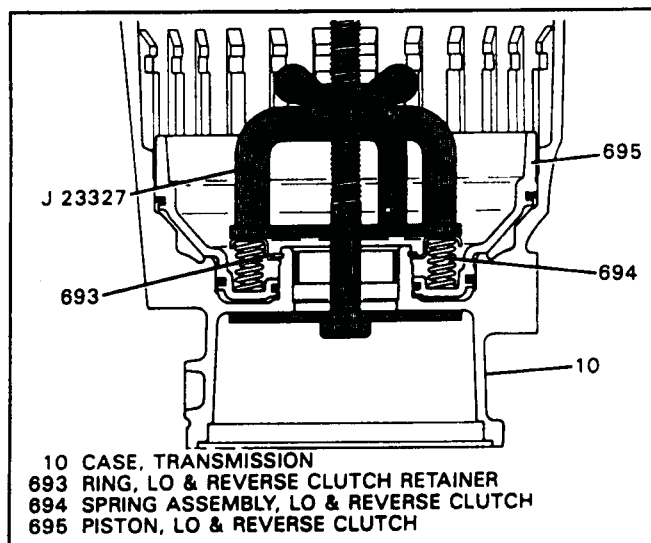

Figure 83
6. Install J-23327 spring compressor as shown in Figure 83.